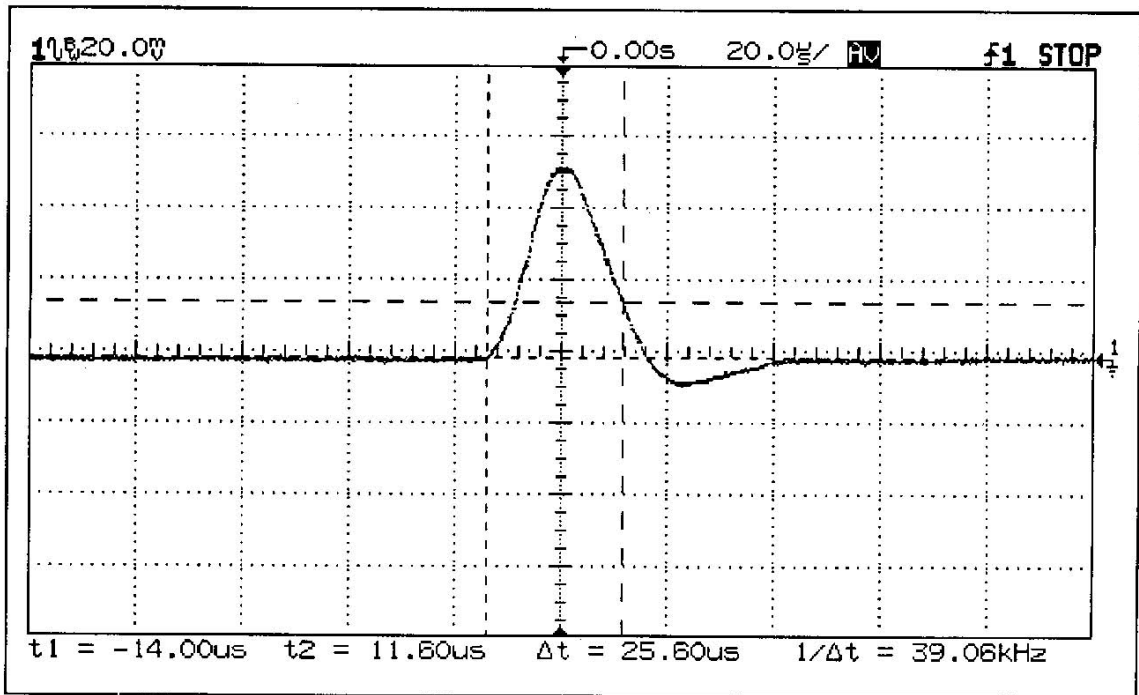

Figure 1-10 Load Transient Response Time Waveform
- 6 Adjust the oscilloscope to display transients as shown in Figure 1-10.
- 8 Repeat steps (1) through (7) for the V2 supply.